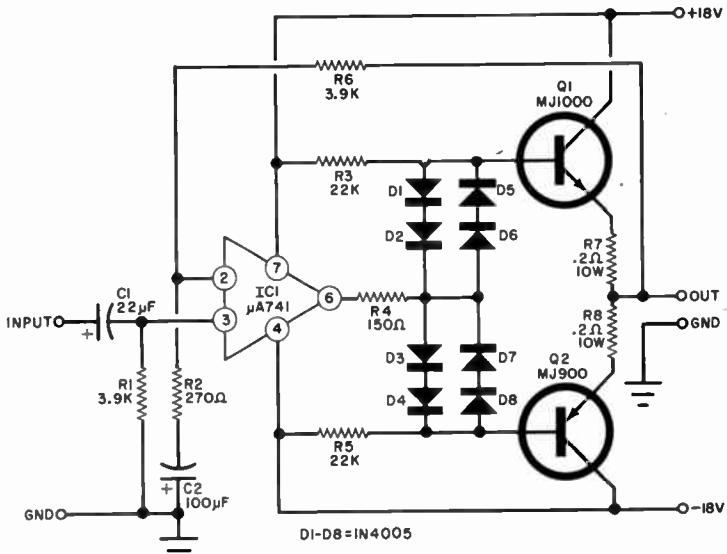

Fig. 3. Operational amplifier driving a pair of power Darlington transistors makes excellent 35-watt universal audio system according to designer Guy C. Sheatz.
**Reader's Circuit.** Using the latest semiconductor devices, the simple power amplifier circuit illustrated in Fig. 3 was submitted by reader Guy C. Sheatz (612 McIntyre Road, Rockville, MD 20851). Capable of delivering better than 35 watts to loudspeaker loads when powered by a dual 18-volt dc source, the amplifier has a frequency response beyond audibility and has more than adequate sensitivity for use with conventional preamplifiers. It can be used in PA equipment, phonographs, tape players, receivers, modulators, paging systems, or virtually any equipment design requiring moderate audio power levels.